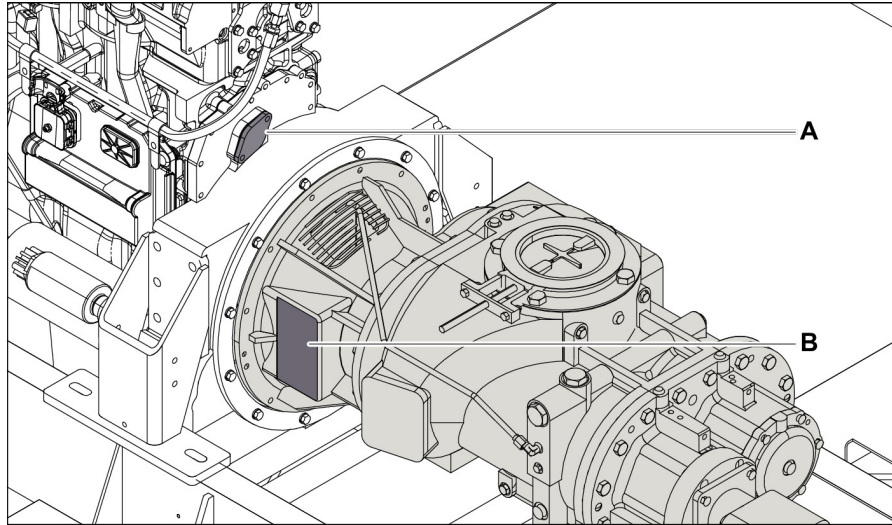

Figure 7
12. Remove the compressor access covers (Figure 7 item B) and the engine rotation access cover (item A).